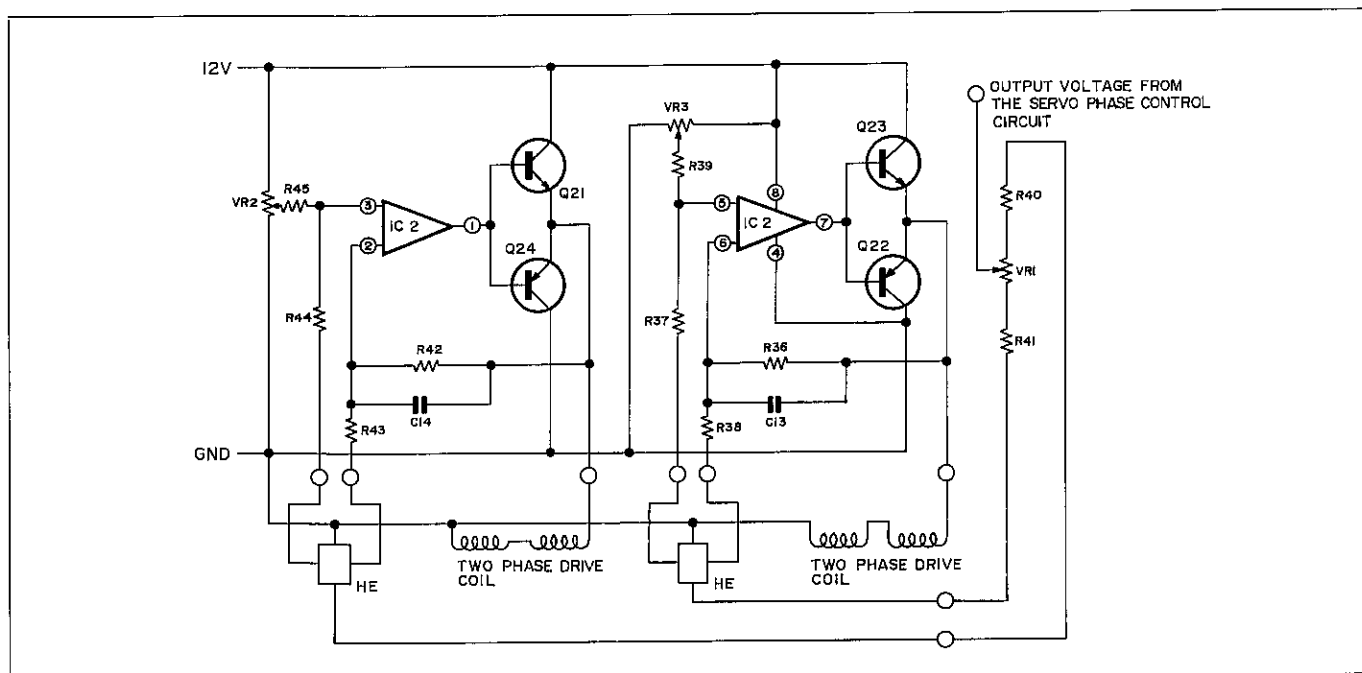

Figure 31 DD MOTOR DRIVE CIRCUIT
### (8) DD motor drive circuit (See Figure 31)